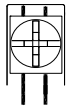

Figure 3:
2. Break all in-out wire runs on supervised circuits to ensure integrity of circuit supervision as shown in Figure 3. The polarity shown in the wiring diagrams is for operation of the appliances.